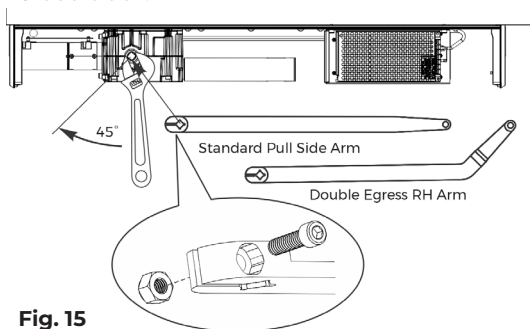

Fig. 15
1. Using an adjustable wrench, rotate top pinion 45 degrees toward door hinge. You will feel resistance from spring. (Fig. 15)
2. **While holding pinion at 45 degrees**, slide arm on bottom pinion at orientation shown. (Fig. 15)